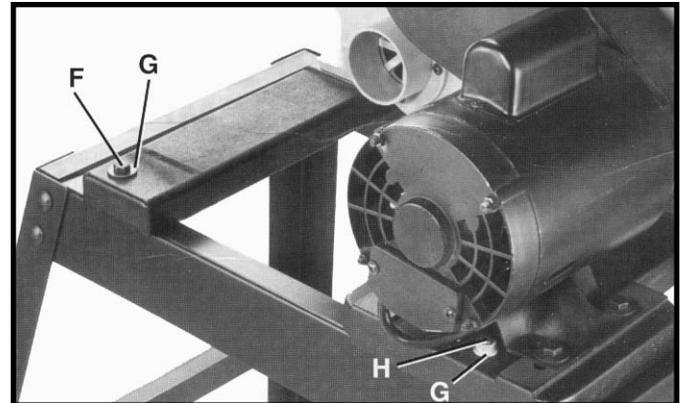

Fig. 7
4. Fasten remaining end of band saw to top of stand using two 45mm (approximately 1-3/4" long) hex head screws (F) Fig. 7, four flat washers (G), and two hex nuts (H) supplied as shown. **NOTE:** On the foot end of band saw the screw and flat washer (F) and (G) are inserted from the top and the nut and remaining flat washer are under the upper brace of the stand. On the motor end of band saw, the nut and flat washer (H) and (G) will be located on the top of the motor mounting plate, as shown.